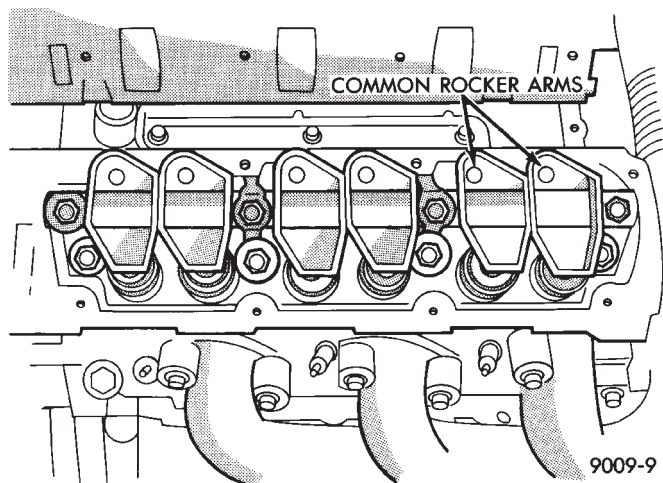

Fig. 28 Rocker Arm Location Left Bank
- (1) Remove upper intake manifold assembly. Refer to Group 11, Exhaust System and Intake Manifolds.
- (2) Disconnect spark plug wires by pulling on the boot straight out in line with plug.
- (3) Disconnect closed ventilation system and evaporation control system from cylinder head cover.
- (4) Remove cylinder head cover and gasket.
- (5) Remove four rocker shaft bolts and retainers.
- (6) Remove rocker arms and shaft assembly.
- (7) If rocker arm assemblies are disassembled for cleaning or replacement. Assemble rocker arms in their original position. Refer to (Fig. 28) for rocker arm for positioning on the shaft.
- (1) Install rocker arm and shaft assemblies with the stamped steel retainers in the four positions, tighten to 28 N·m (250 in. lbs.) (Fig. 28).